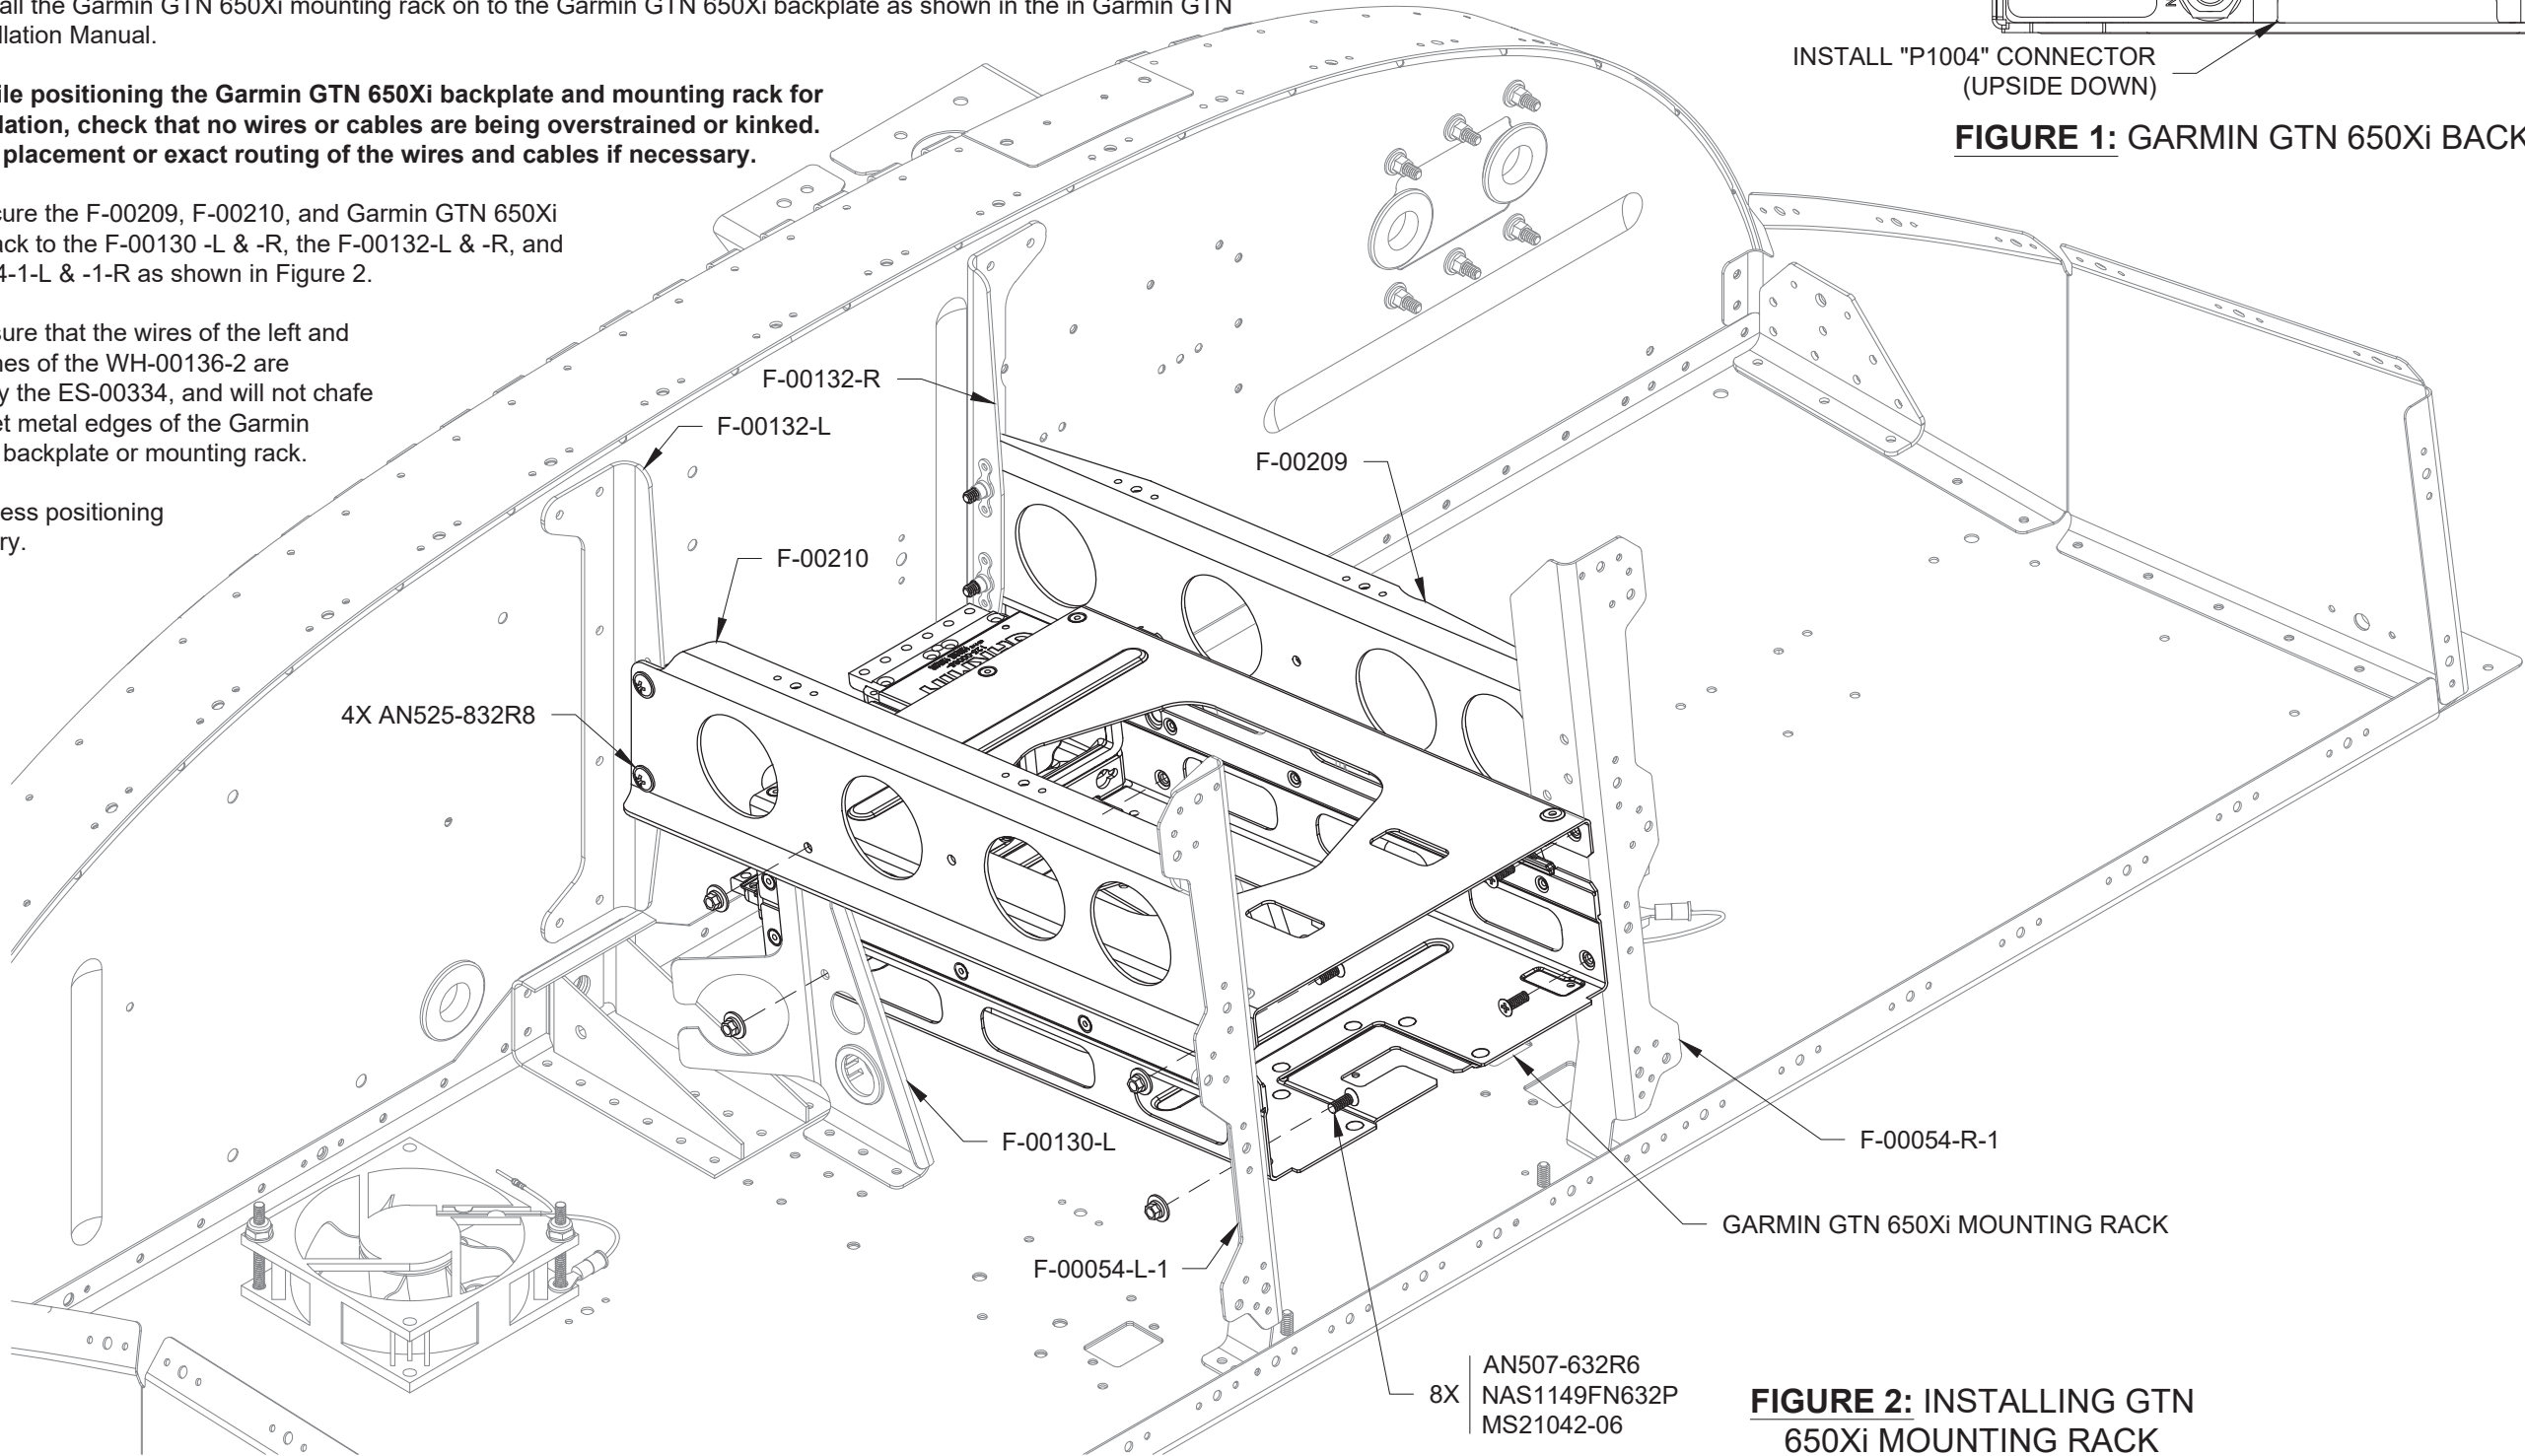

FIGURE 2: INSTALLING GTN 650Xi MOUNTING RACK
Step 5: Secure the F-00209, F-00210, and Garmin GTN 650Xi mounting rack to the F-00130 -L & -R, the F-00132-L & -R, and the F-00054-1-L & -1-R as shown in Figure 2.